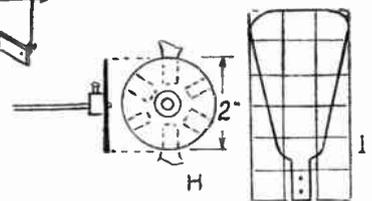

Fig. 4 Vane disc and shape
For the rotary windvanes, cut a disc of stout tin, or thin sheet brass, to size at (H), in Fig. 4. Centre this, drill a $\frac{1}{4}$ in. hole, and over the hole solder another brass collar, with screw. It may be mentioned that the collars and rod can be Meccano parts, and so solve the difficulty of both fitting the discs on, and trouble in obtaining the materials. To this disc the 6 vanes will be fixed, at equal distances apart, as shown by the dotted outlines.